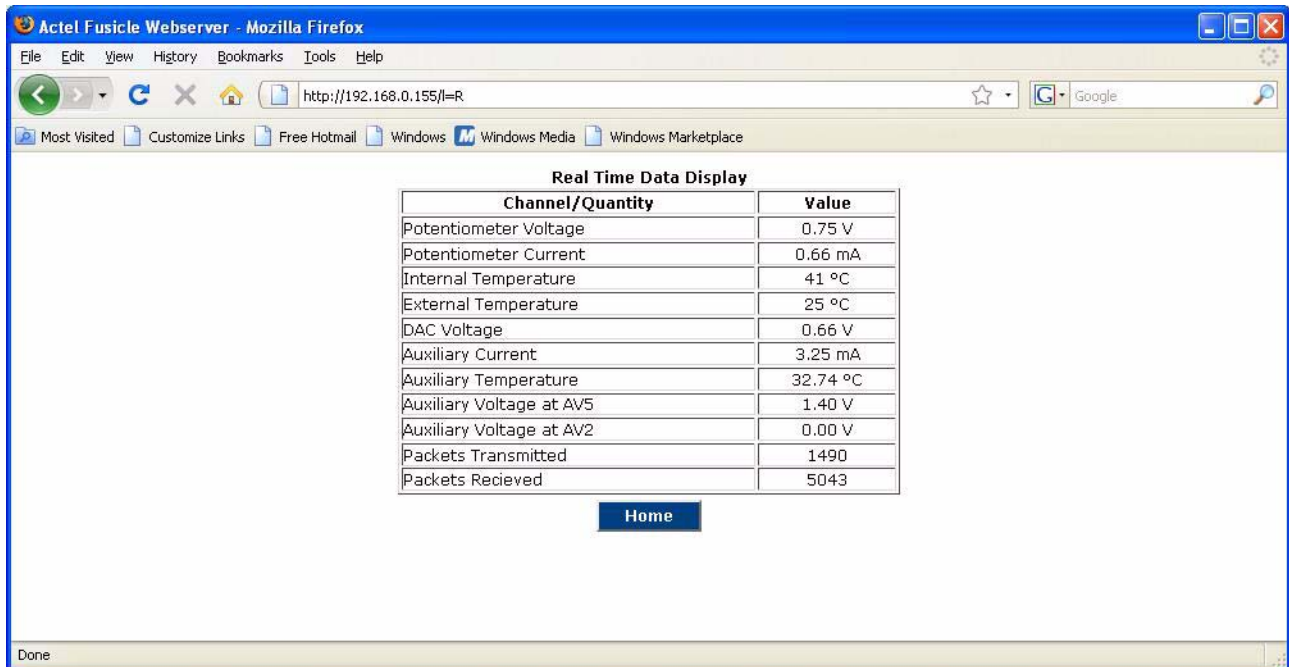

Figure 2-36 · Real Time Data Display
2. The web page displays readings of all channels included in Multimeter, DAC, and VIT-Auxiliary mode. In addition, the number of packets transmitted and received is displayed (Figure 2-36).